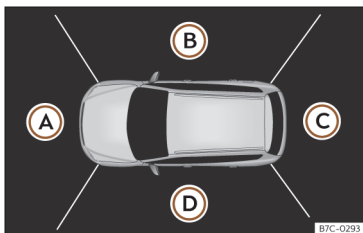

Fig. 138 Display of the Area View system: aerial view.
There are four different views to choose from >>> **Fig. 138:**
The aerial view is generated by combining the images from all the cameras >>> **Fig. 138**. The top view can be selected by pressing the vehicle inside the zone.
Select the corresponding view by pressing the different areas >>> **Fig. 138 (A) to (D)** of the top view or the reduced top view.
The infotainment system's screen shows the top view $\gg \gg$ Fig. 138. If you press the button when driving above 15 km/h (9 mph), the image will not be displayed.